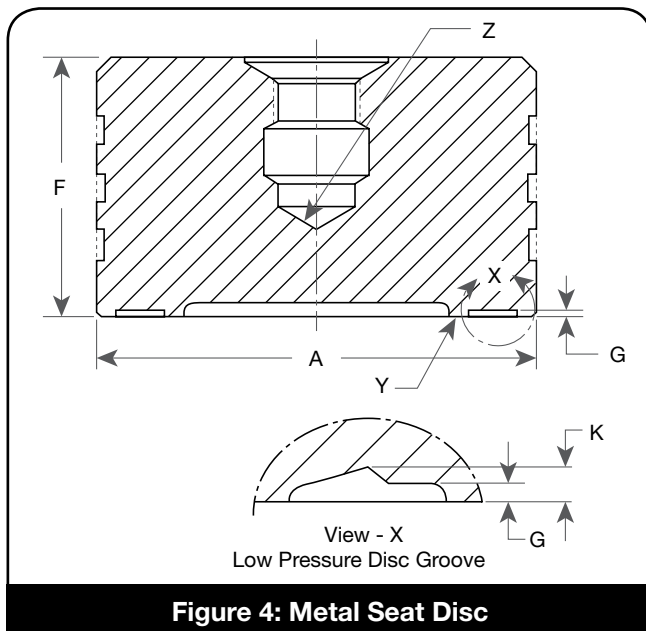

Figure 4: Metal Seat Disc
- Seat Surface (Y) is nicked.
- Spindle bearing surface (Z) is galled or pitted.
- Exceeds dimensions mentioned in Table 1 and Figure 4.